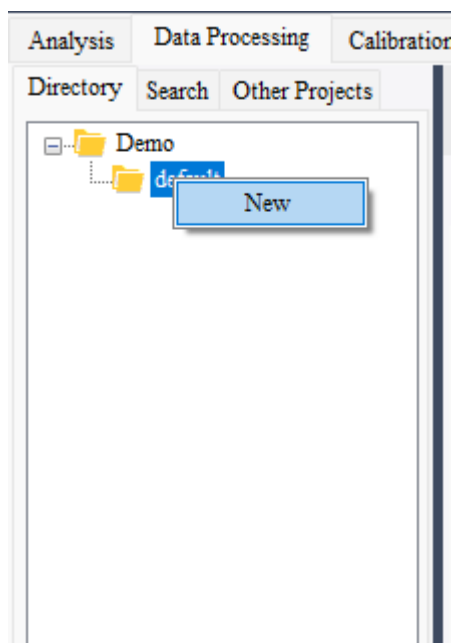

Fig. 4-64 Add storage directory
3) As shown in Fig. 4-64, click the  icon behind the display box of "Storage Location", and the page of "Select Storage Location" will pop up. On this page, click the right mouse button to prompt "Add Directory", click "Add Directory", enter the folder name in the pop-up dialog box,